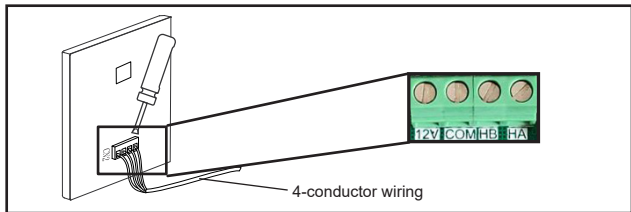

Figure 4. Connection at Controller
5. At the controller, wire the field-provided 4-conductor shielded cable to +12V/COM/HB/HA terminals of the controller. See Figure 4.